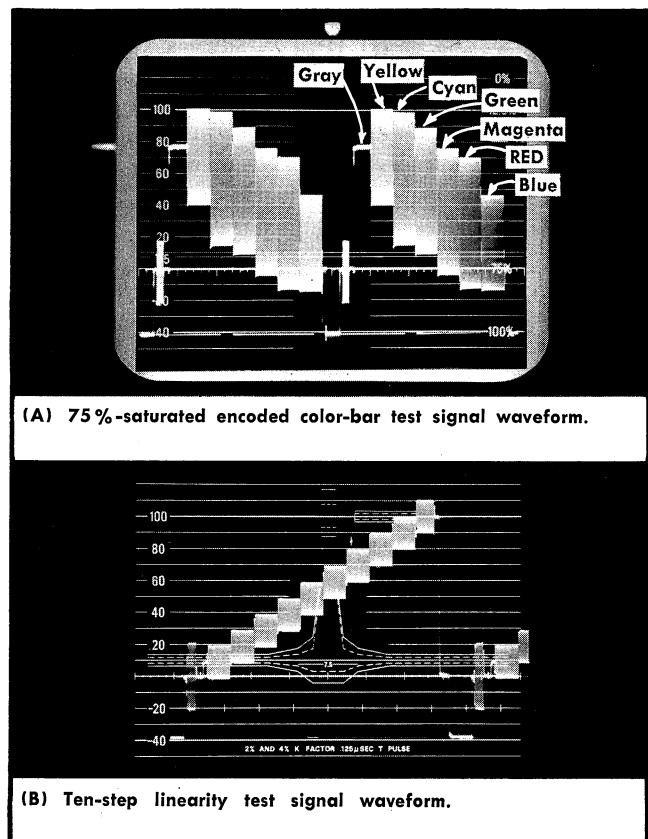

Fig. 2-10. Signals required for performing the First-Time Operation procedure. A waveform monitor was used to obtain the displays.
Only two signals are required for this procedure; (1) A 75%-amplitude encoded color-bar test signal, and (2) a ten-step linearity test signal. Fig. 2-10 shows the waveforms as photographed using a Waveform Monitor. These particular signals have a 7.5% setup level. The First-Time Operation procedure is as follows: